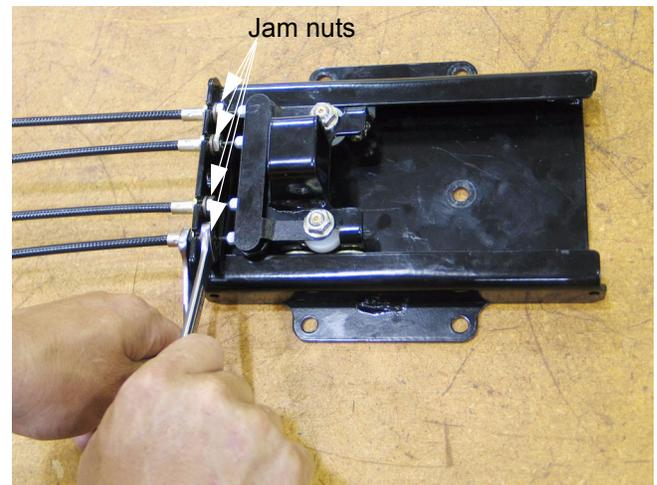

Figure 12.22
12.22. Remove the jam nuts from the end of each cable using a 7/16" wrench and a 3/8" wrench. See Figure 12.22.